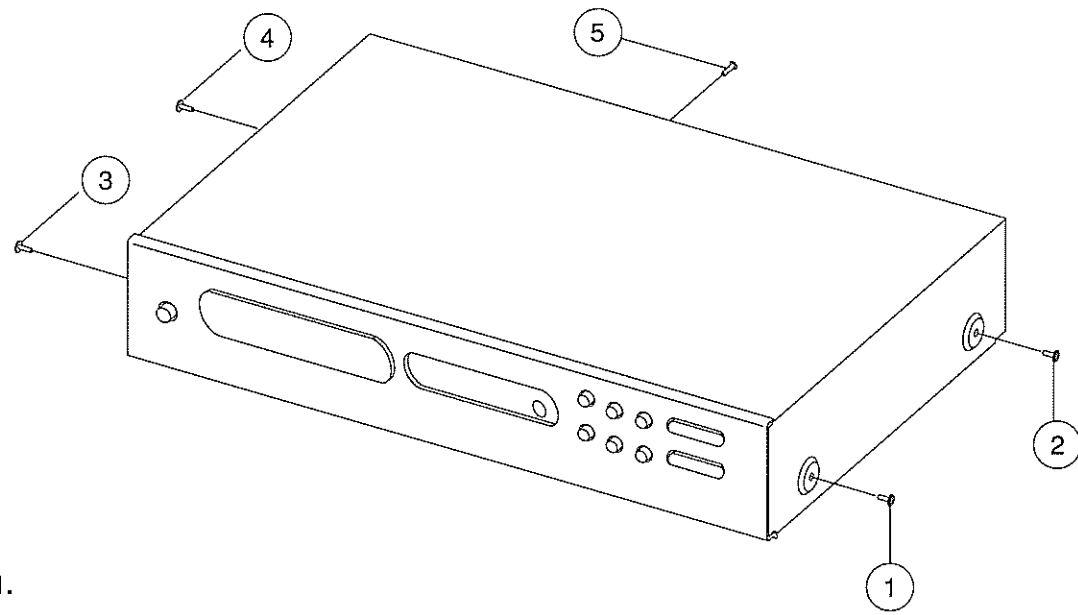

Figure No. 1.
1. Remove machine screws M 4.0 x 6.0 (① to ④) from the side panels. Remove tapping screw 3.0 x 8.0 (⑤) from the back panel. Refer to **Figure No. 1**.